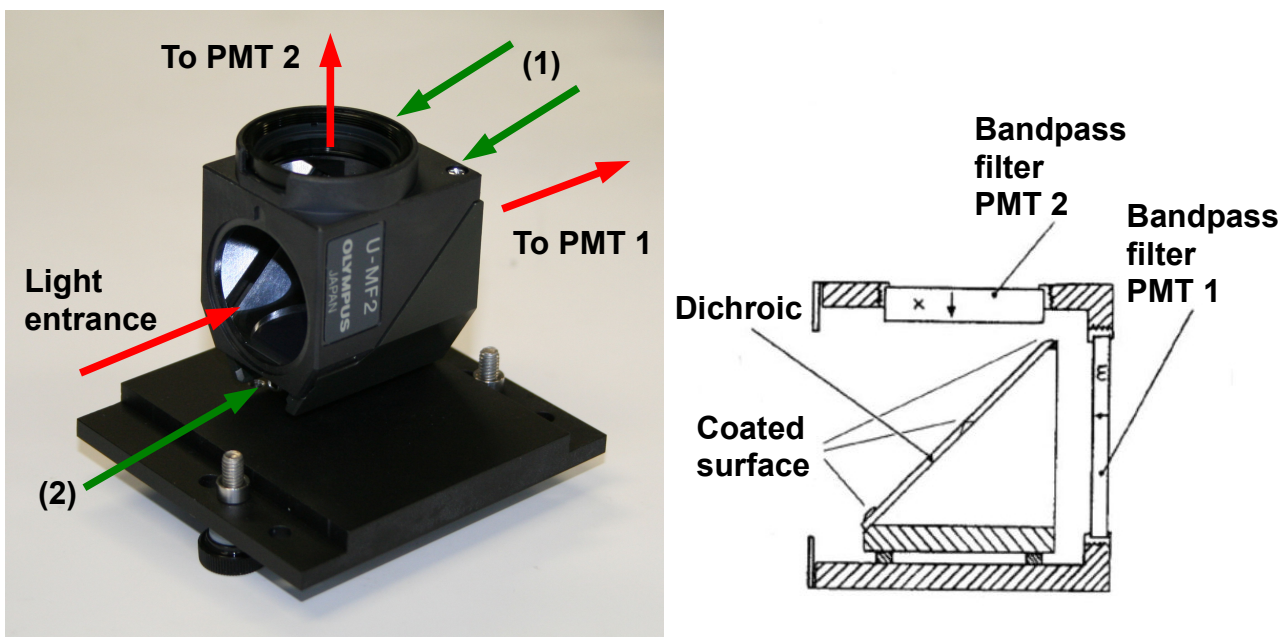

Fig. 4.2: The beam splitter cube. Left: Filter cube mounted on the dove tail. Right: Mounting of the optical elements: dichroic and bandpass filters.
- The **beam splitter cube** (U-MF2 from Olympus) can hold one dichroic and two band pass filters (Fig. 4.2)
- The dichroic should have a size of (25.5 x 36 x 1) mm rectangular. In order to exchange the dichroic, the two screws (arrows (1) in Fig. 4.2, left) should be removed.
- In order to remove the complete filter cube from the holder, loosen the screw indicated by arrow (2) in Fig. 4.2 (left).